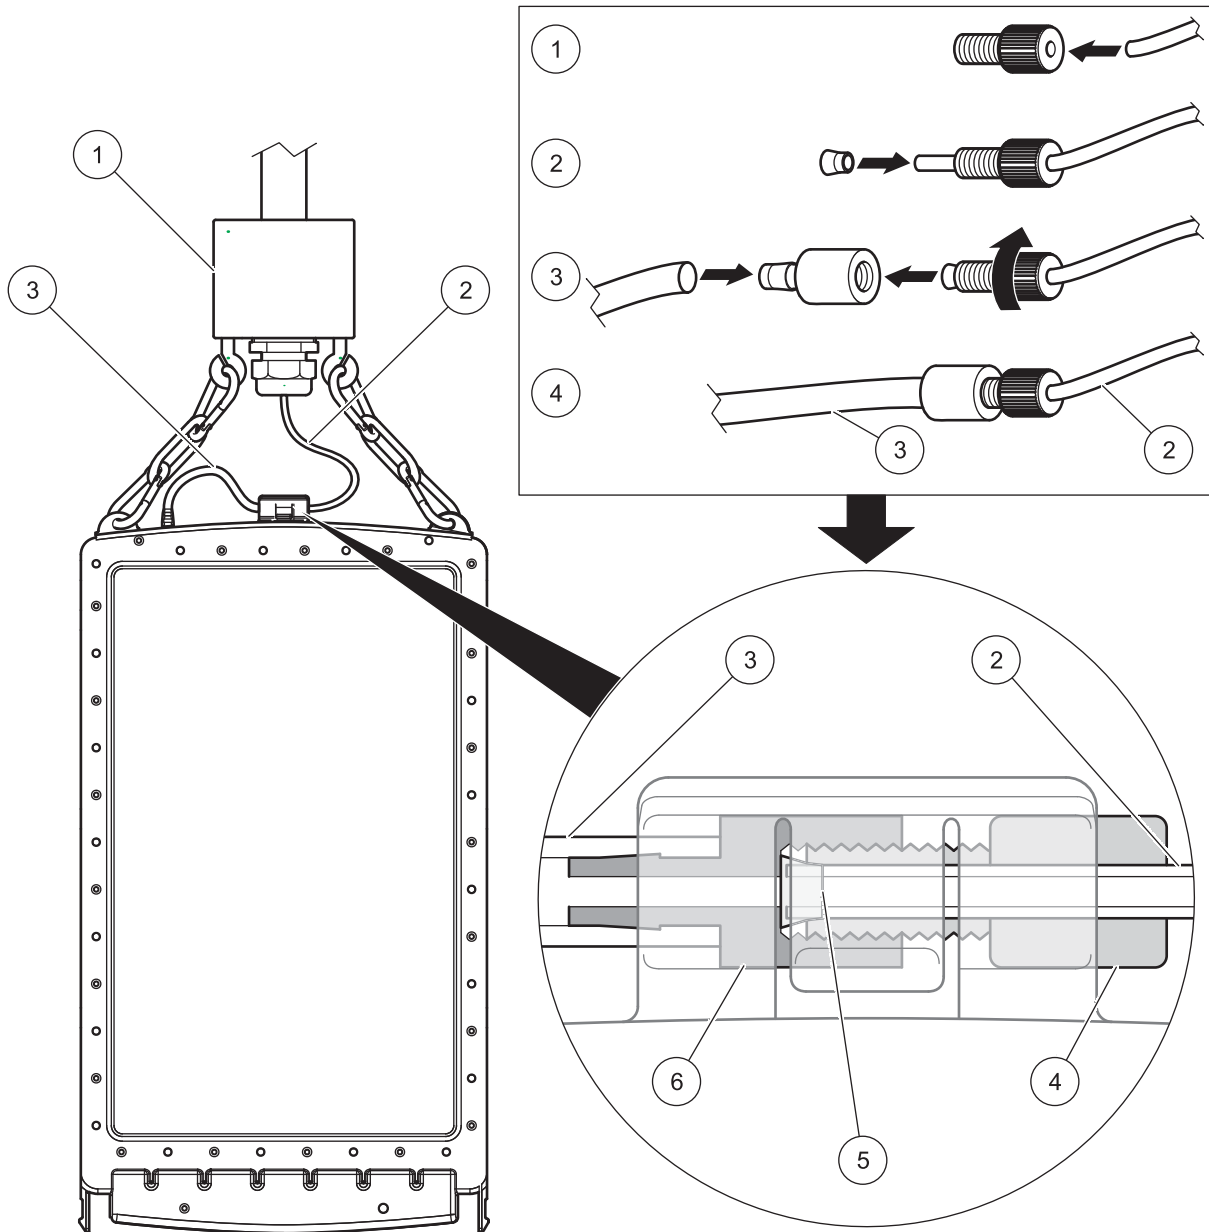

Figure 19 Commission the filter module
2. Unpack the filter module and hook onto the module carrier using the karabiner (refer to Figure 19, item 1).
3. Connect the sample tube in accordance with Figure 19.